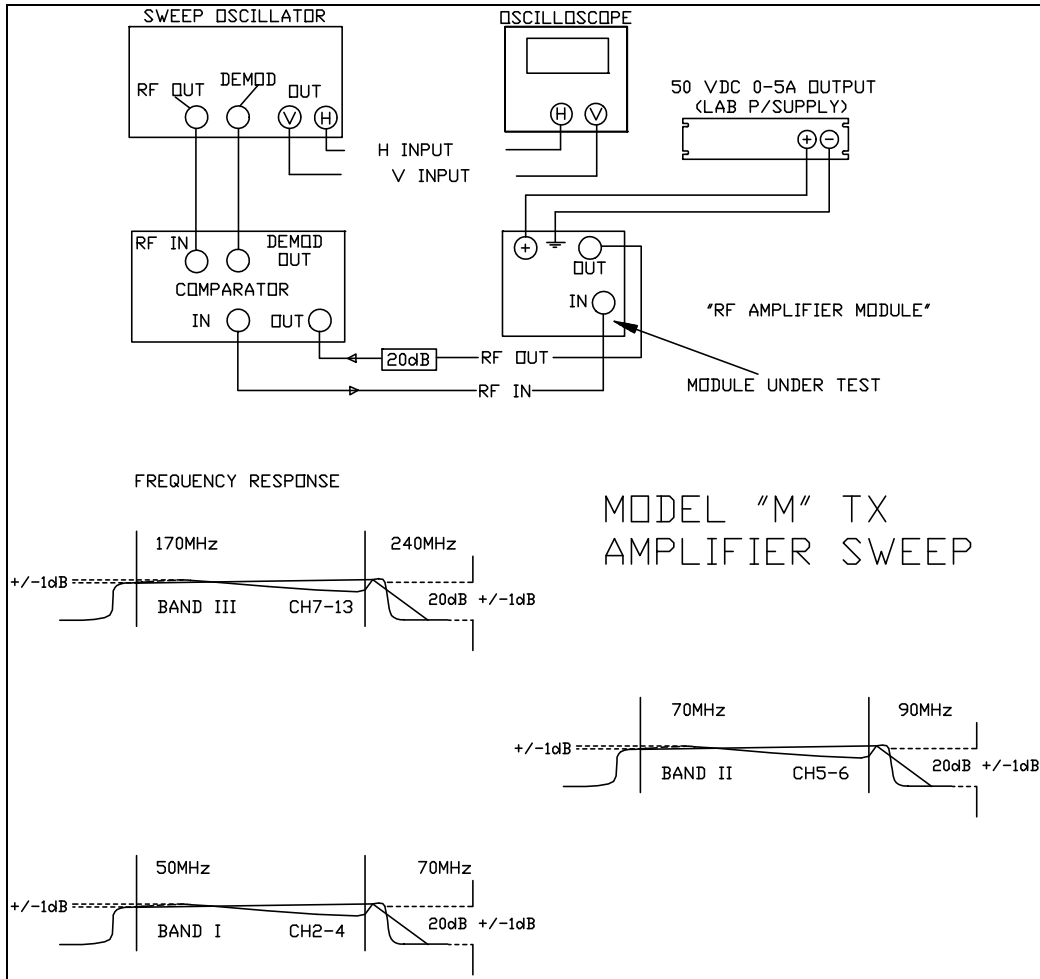

Figure 1 Module Sweep Setup
- Connect the module to a sweep system, typically as shown in Figure 1. The sweep generator should be adjusted to give a linear sweep from 160 to 240 MHz so that all of High Band or Band III is swept, with a small amount of out-of-band signal on both ends.
- The swept in-band frequency response, for High Band modules, should be essentially flat within \pm 1 dB as shown in Figure 1, with gain approximately 15 to 16dB.